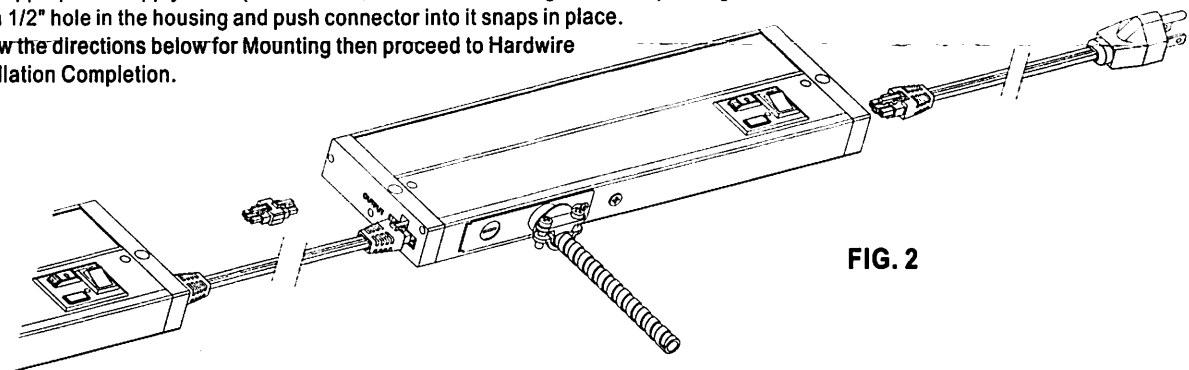

FIG. 2
- Open cover plate(2) with screwdriver. See FIG. 2.
- Flexible conduit (BX) - A push-on connector (shown) is included for use.
- First fixture in series can be Corded or Hardwired. See FIG. 2.